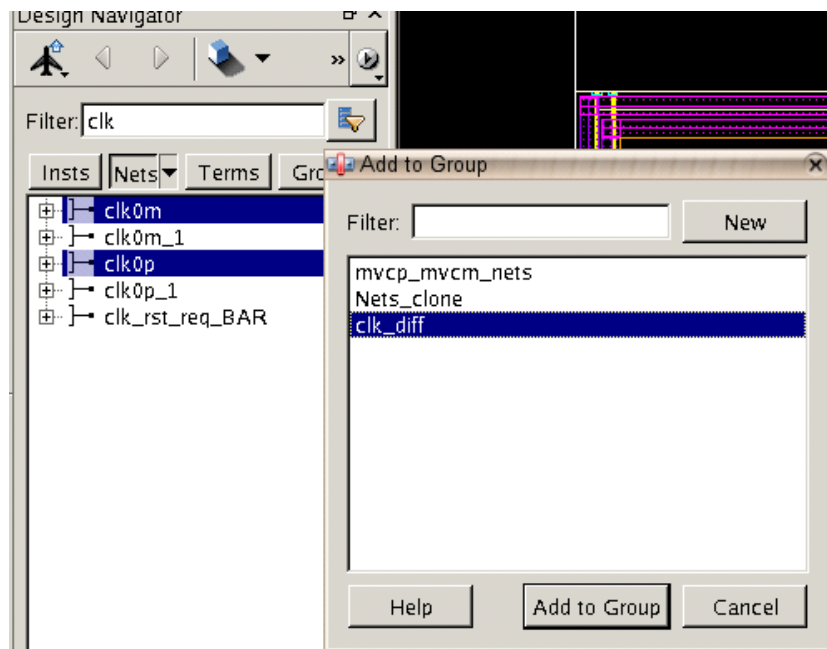

Figure 11 Creating a Net Group in the Design Navigator
- i. Click **Add to Group** (shown in Figure 11).